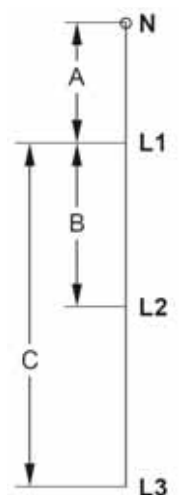

fig. 31
- **fig. 31:** The first laser lamp L1 for the seam start must be positioned at a distance  $A = 135$  mm from the needles N.